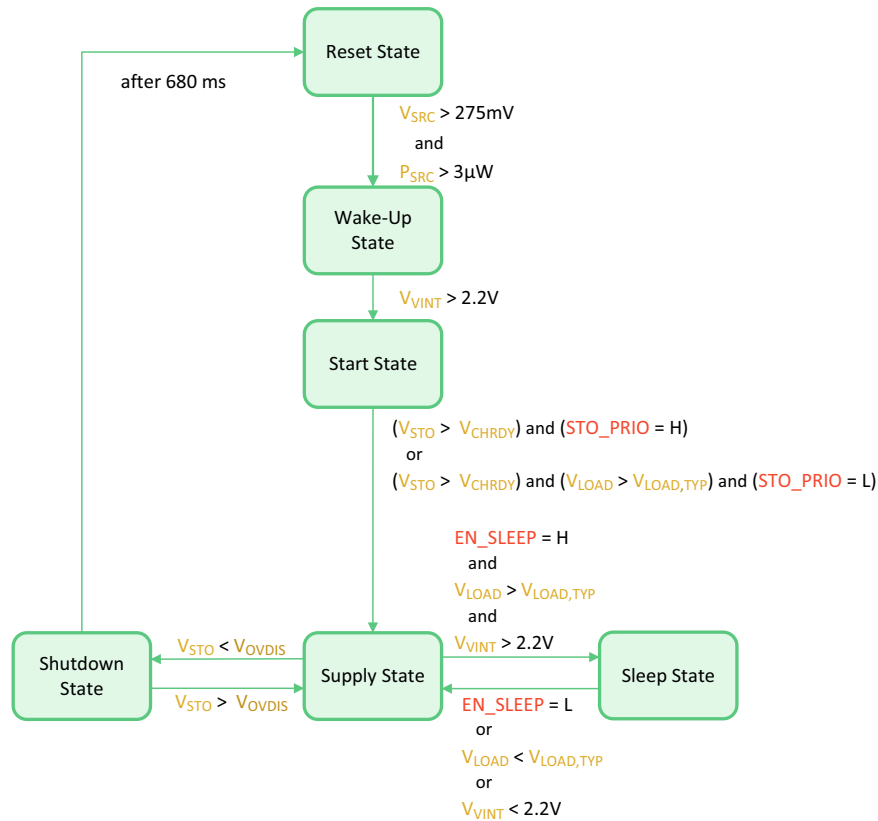

Figure 11: Diagram of the AEM00330 States
- If **EN_SLEEP** is HIGH and conditions (shown on Figure 11) on V_{LOAD} and V_{VINT} are satisfied, the AEM enters **SLEEP STATE** (see Section 5.3.4).